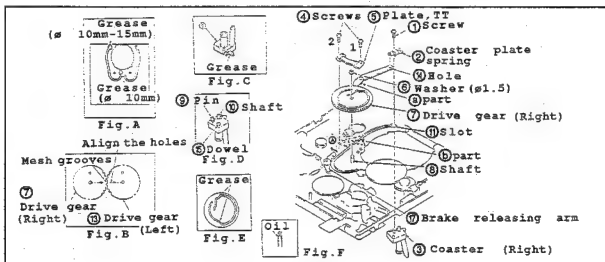

Fig.II-24
• Disassembling (Fig.II-24)
- (1) In the same procedures "3-3" and "3-12", dismount the capstan motor and the drum unit.
- (2) In the same procedures in "3-14", take off the loading lever.
- (3) Set STOP mode.
- (4) To take off the coaster plate spring ② and the coaster (Right) ③, remove the screw ①.
- (5) To detach the plate TT ⑤, remove the two screws ④.
- (6) To dismount the drive gear (Right) ⑦, remove the washer ⑥ (ø1.5).
• Reassembling (Fig.II-24)
*Caution: Do not turn the tilt adjusting screw ③ of coaster (Right). (Repair parts have been already adjusted.)
- (1) Apply the grease to the indicated positions of chassis as shown in Fig.A.
- (2) Apply the 1/2 drop of oil to the shaft ⑩. (Fig.F)
- (3) Apply the grease onto the pin ⑨, the shaft ⑩ and the dowel ⑪ of coaster (Right) ③.
- (4) Assemble the pin ⑨ and the shaft ⑩ aligning the slot ⑪ of chassis.
- (5) Put the brake releasing arm ⑦ to the arrowed direction A.
- (6) Install the drive gear (Right) ⑦ to the shaft ⑩. Then, mesh it with the drive gear (Left) ⑧ while aligning each phases as shown in Fig.B.
- (7) Align a with b, the hole ⑥ with the pin ⑨ of coaster (Right) ③, respectively.
- (8) Secure the washer ⑥ (ø1.5).
- (9) Assemble the coaster plate spring ② while aligning the shaft ⑩ (coaster ③) with the pin ⑨. Then, secure it with the screw ①. (Torque: 500g/cm approx).